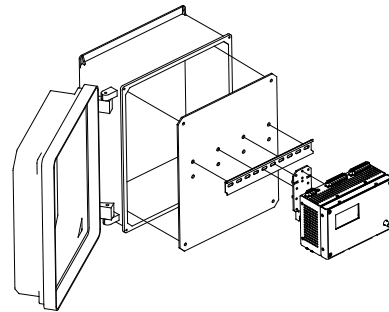

Figure 3: NEMA 4X/IP66 WP Housing
- 03 Fiberglass NEMA 4X/IP66 WP housing with window in door (see Figure 3)